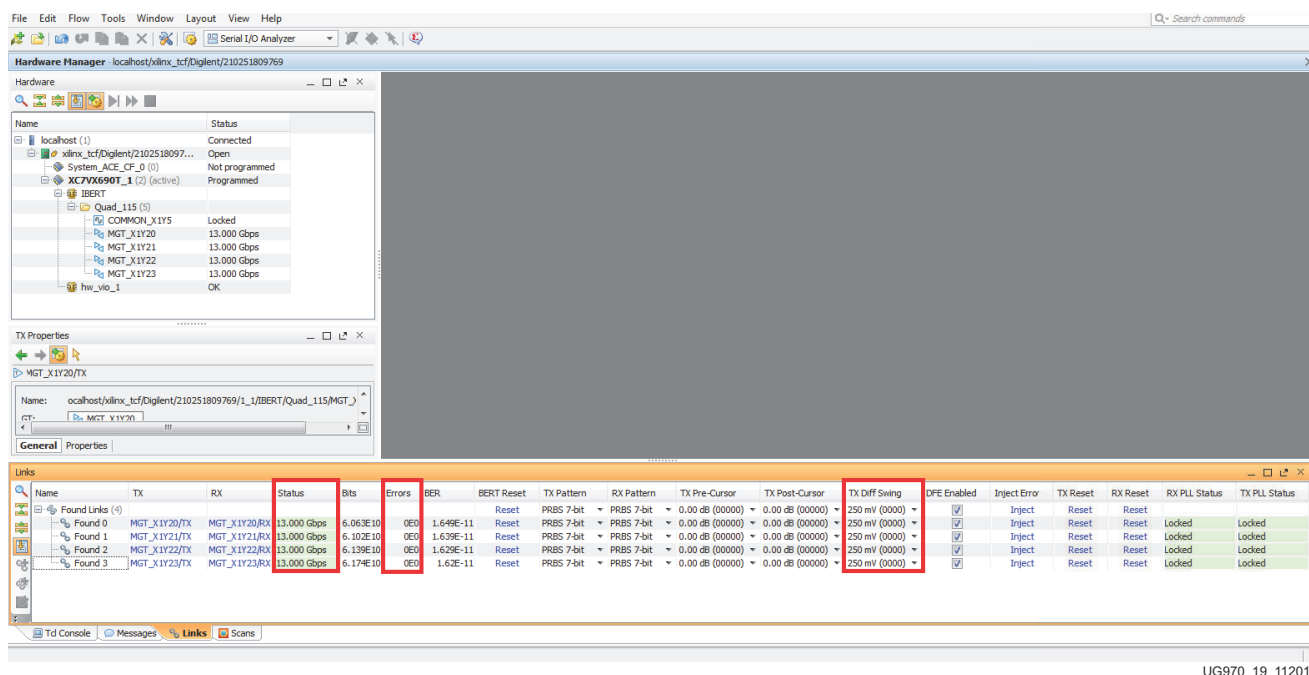

Figure 1-19: Serial I/O Analyzer Links
After completing step 7 in Starting the SuperClock-2 Module, the IBERT demonstration is configured and running. The status and test settings are displayed on the Links tab in the Links window shown in Figure 1-19.
- The line rate for all four GTH transceivers is 13.0 Gb/s (see **Status** in Figure 1-19).